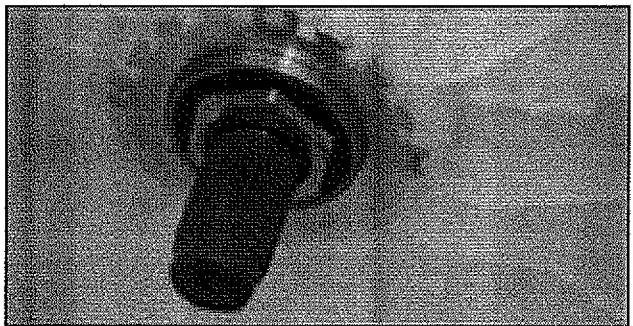

FIGURE 16
24. Tip washer back onto hoses. Install new Shaft Nut and tighten. See *Figure 16*.